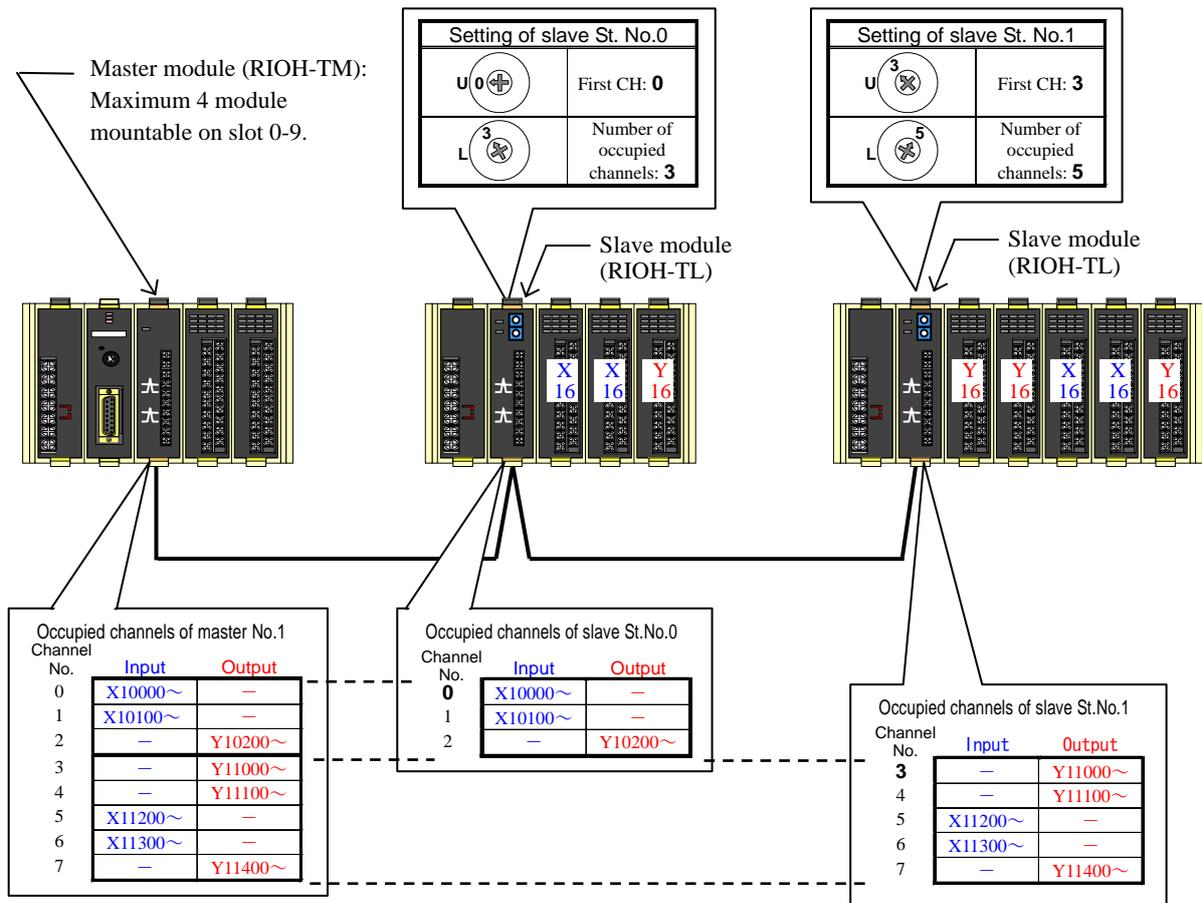
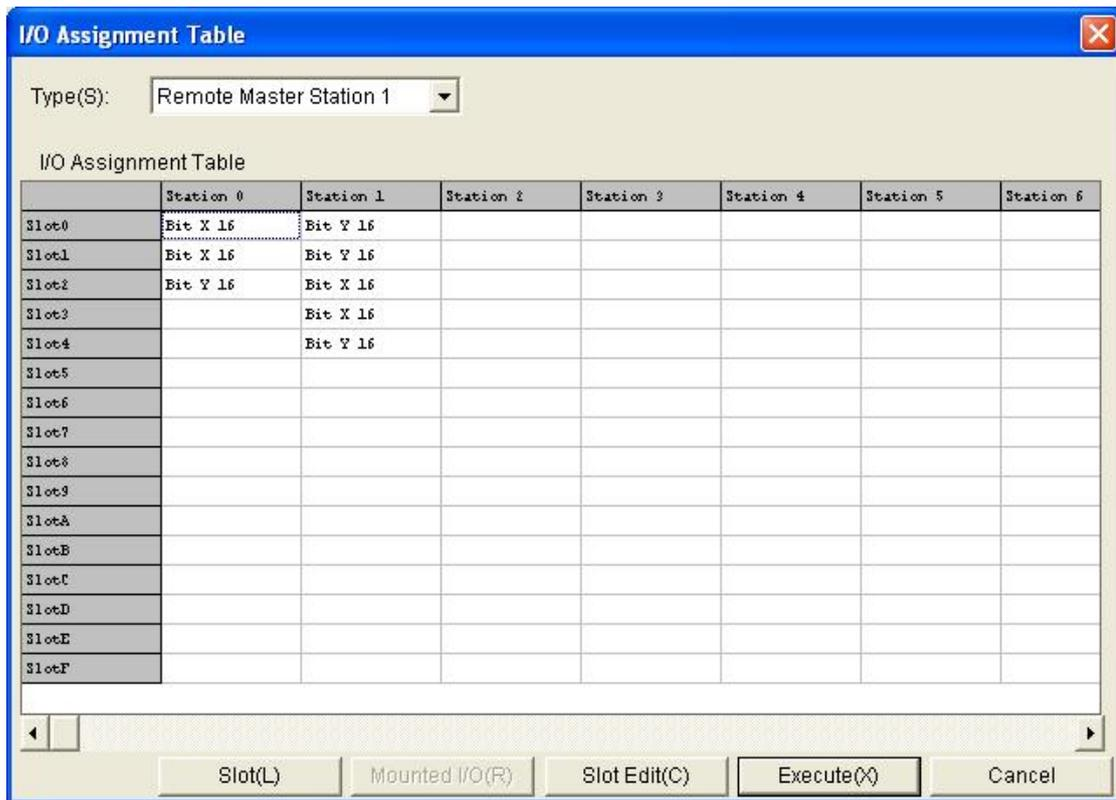
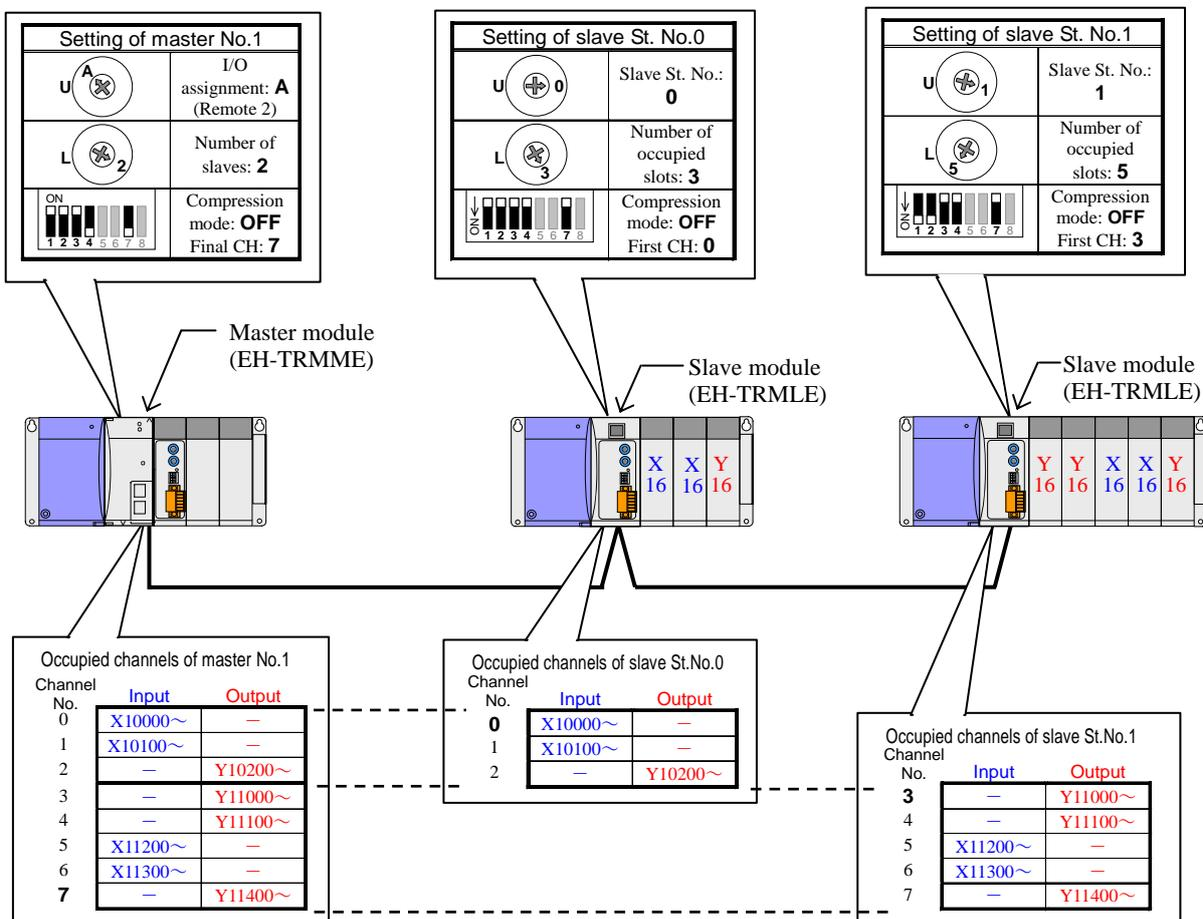

Figure 4.15 System configuration example-3 of the H-200 series (Not using image slot)
Figure 4.16 Example of I/O assignment for slave bases (with Ladder editor in system configuration example-3)
Figure 4.17 Replaced system configuration example-4 of the EH-150 (Not using image slot)
Figure 4.15 shows the system configuration example of the H-200 series using no image slot. Figure 4.16 shows I/O assignment for remote bases of this system. Figure 4.17 shows the replaced system configuration example of the EH-150 series. In this case, it is necessary to change I/O assignment for master module from "Remote" to "Remote 2".
Figure 4.17 is an example of replacing all of master and slave modules with the EH-150 series. It is also possible to leave all or partially slave modules like the H-200 series in order to postpone the wiring work of slaves. In this case, please turn off high-speed refreshing mode (HS) of a front DIP switch of the master module and the slave modules.